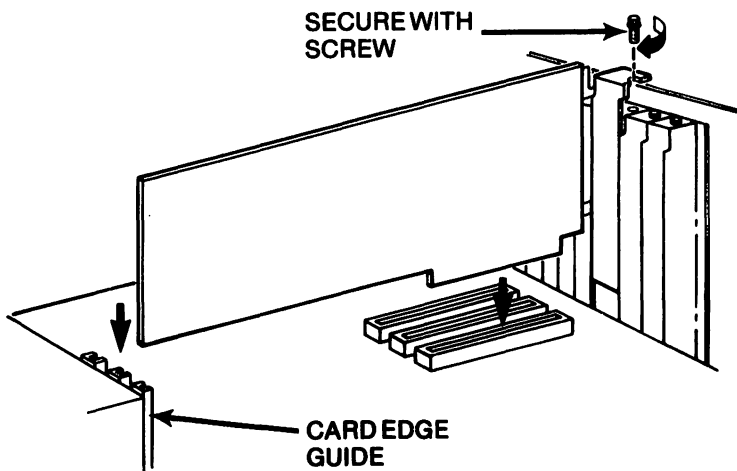

Figure 3-3
3. Gently press the adapter board into the slot. When installing a full length card, make sure that the front edge of the board is inserted in the card-edge guide. See Figure 3-3.